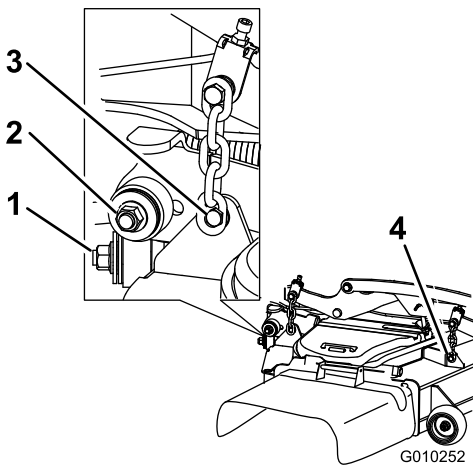

**Figure 97**
5. Lift the floor pan and insert a ratchet into the square hole in the deck idler (Figure 97).
6. Rotate the deck idler clockwise and remove the mower belt (Figure 97).